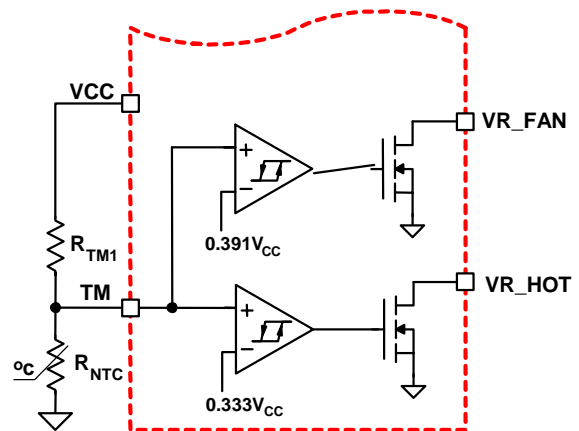
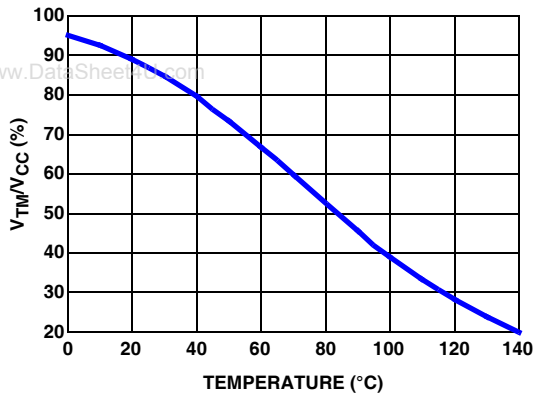

FIGURE 12. BLOCK DIAGRAM OF THERMAL MONITORING FUNCTION
FIGURE 13. THE RATIO OF TM VOLTAGE TO NTC TEMPERATURE WITH RECOMMENDED PARTS
The diagram of thermal monitoring function block is shown in Figure 12. One NTC resistor should be placed close to the power stage of the voltage regulator to sense the operational temperature, and one pull-up resistor is needed to form the voltage divider for the TM pin. As the temperature of the power stage increases, the resistance of the NTC will reduce, resulting in the reduced voltage at the TM pin. Figure 13 shows the TM voltage over the temperature for a typical design with a recommended 6.8kΩ NTC (P/N: NTHS0805N02N6801 from Vishay) and 1kΩ resistor RTM1. We recommend using those resistors for the accurate temperature compensation.
Based on  $V_{CC}$  voltage, ISL6334, ISL6334A converts the TM pin voltage to a 6-bit TM digital signal for temperature compensation. With the non-linear A/D converter of ISL6334, ISL6334A, the TM digital signal is linearly proportional to the NTC temperature. For accurate temperature compensation, the ratio of the TM voltage to the NTC temperature of the practical design should be similar to that in Figure 13.
1. Properly choose the voltage divider for the TM pin to match the TM voltage vs temperature curve with the recommended curve in Figure 13.